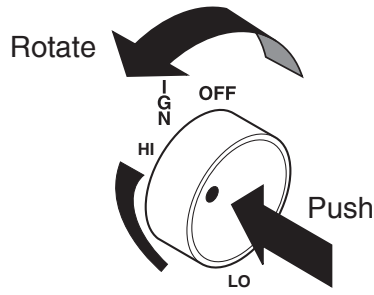

Figure 37 - HIGH Position
10. Push in control knob and turn counterclockwise  to the HIGH setting. At this location the control knob will pop out when positioned correctly. The knob can now be positioned at any position between HIGH and LOW. See *Figures 37 and 38*.